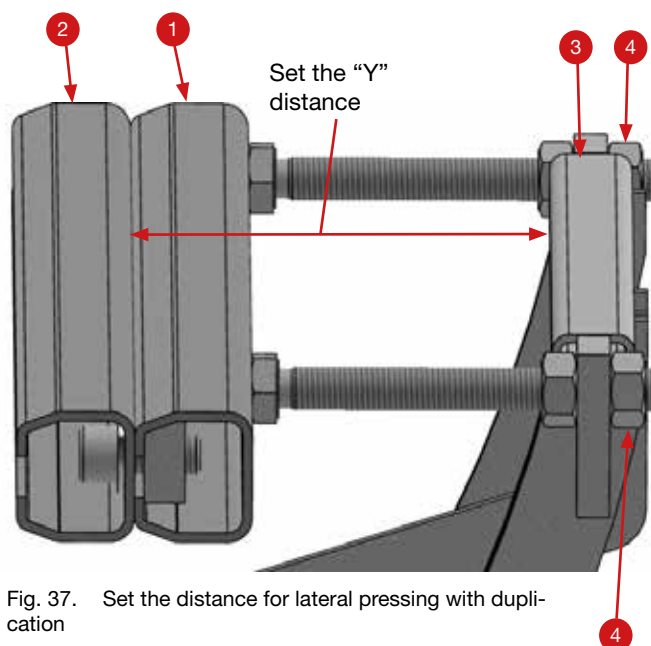

Fig. 37. Set the distance for lateral pressing with duplication
4. Adjust the “Y” distance between the doubled C-rail and the pressure frame (see Fig. 37).